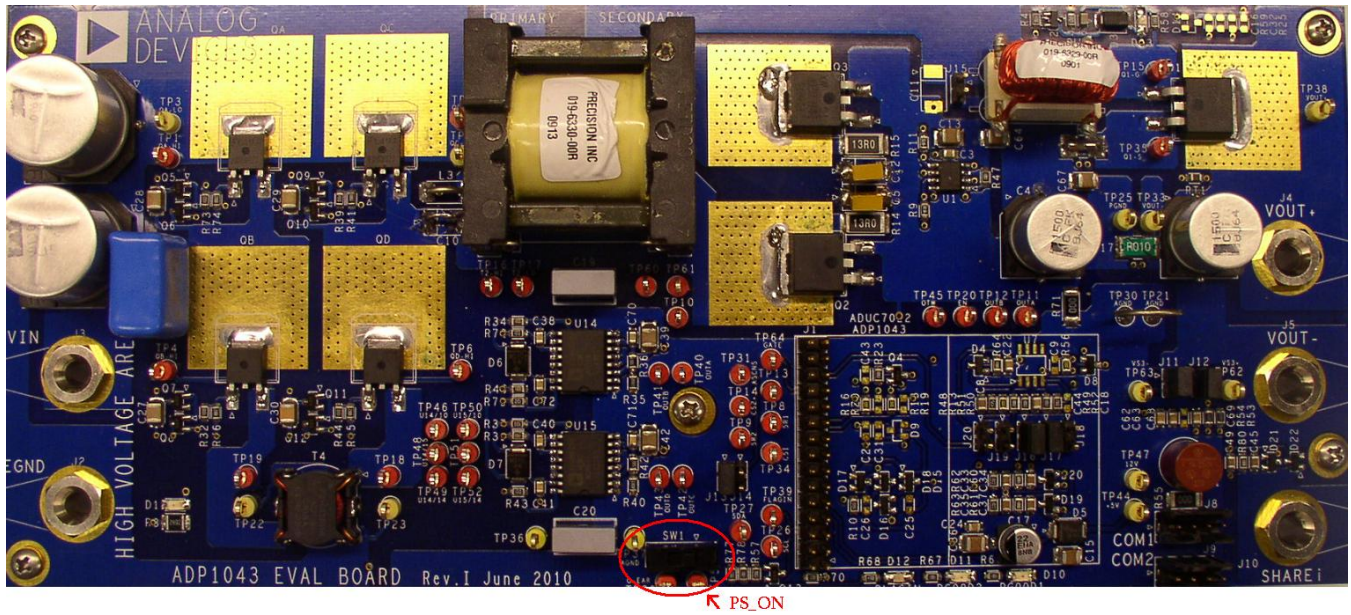

Figure 5 - 100W evaluation board showing PS\_ON hardware switch
- 2) Insert the daughter card in connector J1 as shown in Figure 5.
- 3) Ensure that the PS\_ON switch (SW1 on schematic) is turned to the OFF position. It is located on the bottom left half of the board (Figure 5).